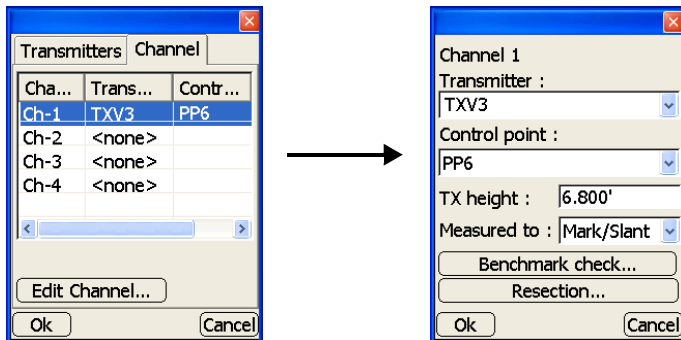

Figure 7-3. Enter Transmitter Channel and Control Point Data
7. To enter transmitter setup information, tap the *Channel* tab and select the connected transmitter, then press **Edit Channel**. Set the following parameters and tap **Ok** (Figure 7-3 on page 7-5):